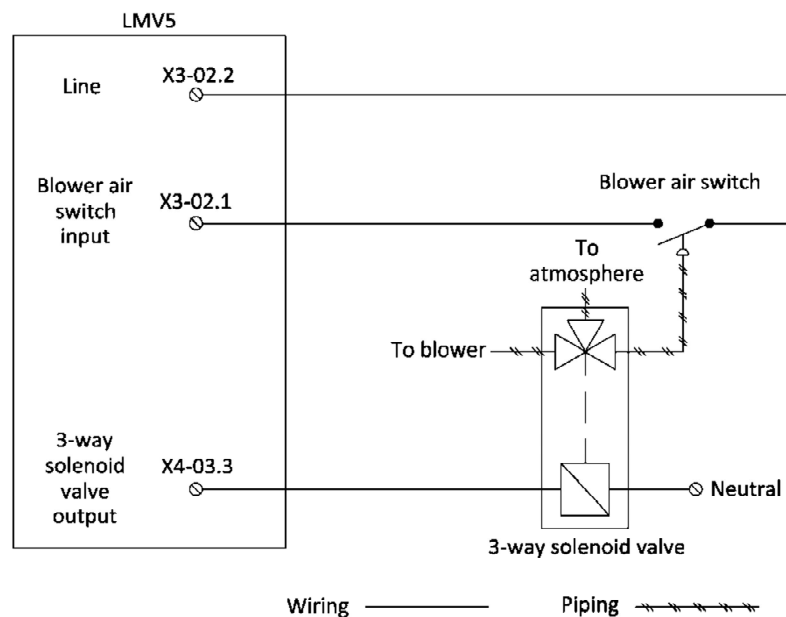

Figure 1: Wiring a 3-way Solenoid Valve for Direct Start
1. Install and wire a 3-way solenoid valve as shown in Figure 1.